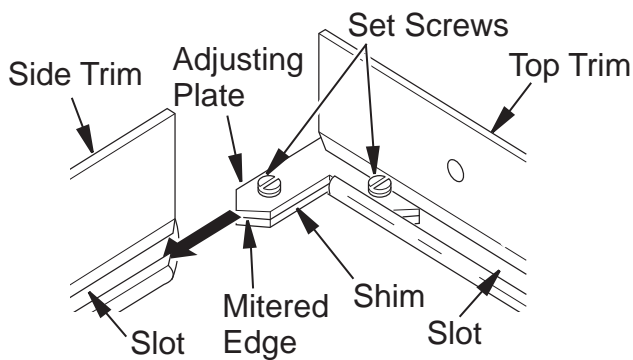

Figure 6 - Assembling Trim
3. Align shim under adjusting plate as shown in **Figure 6**.
4. Slide one end of adjusting plate/shim in slot on mitered edge of top trim (see **Figure 6**).
5. Slide other end of adjusting plate/shim in slot on mitered edge of side trim (see **Figure 6**).